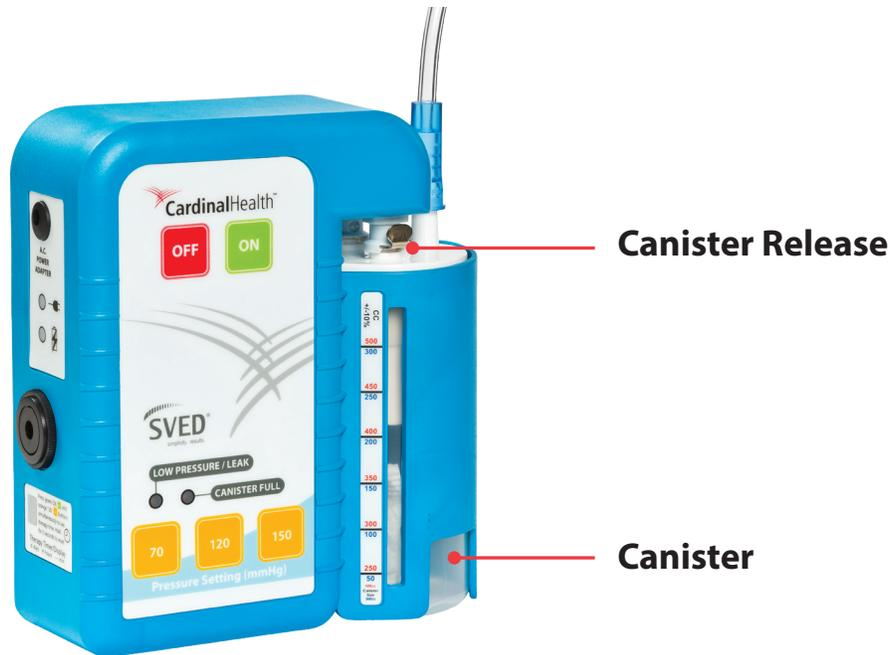

Figure 4
4. To remove the canister, press the Canister Release Button located above the canister, grasp the canister at the bottom and gently pull downward (**Figure 4**).